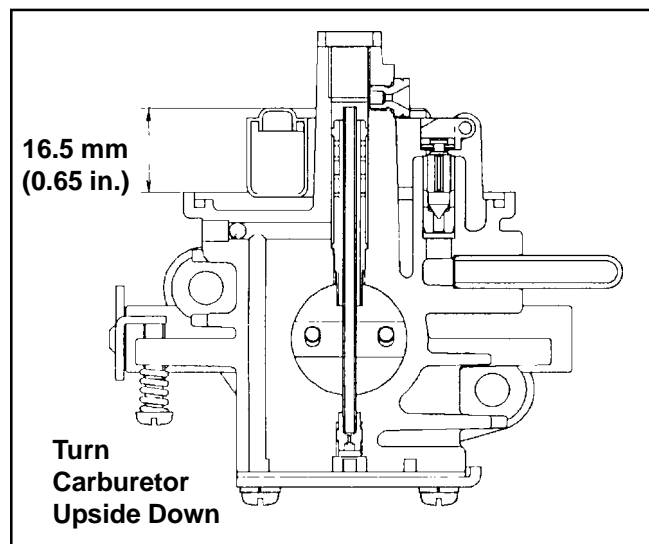

Figure 5-6. Proper Float Level.
6. Turn the carburetor body upside down and check the float level as shown in Figure 5-6. With the float needle valve fully seated, 16.5 mm (0.65 in.) should be measured from the body to the float as indicated. Don't attempt to adjust by bending the tab; replace the float with a kit if the level is wrong.